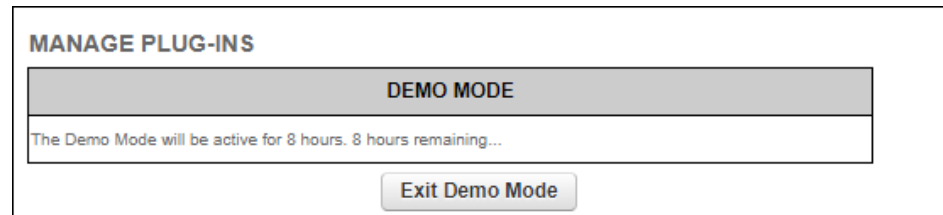

Figure 60. MANAGE PLUG-INS dialog (Demo Mode activated)
- The **Demo Mode** activation dialog will be shown (Figure 60 \(page 136\)). A countdown timer shows how much Demo time remains.